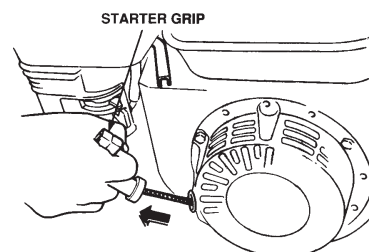

Figure 14. Starter Grip
6. Grasp the **starter grip** (Figure 14) and slowly pull it out. The resistance becomes the hardest at a certain position, corresponding to the compression point. Pull the starter grip briskly and smoothly for starting.